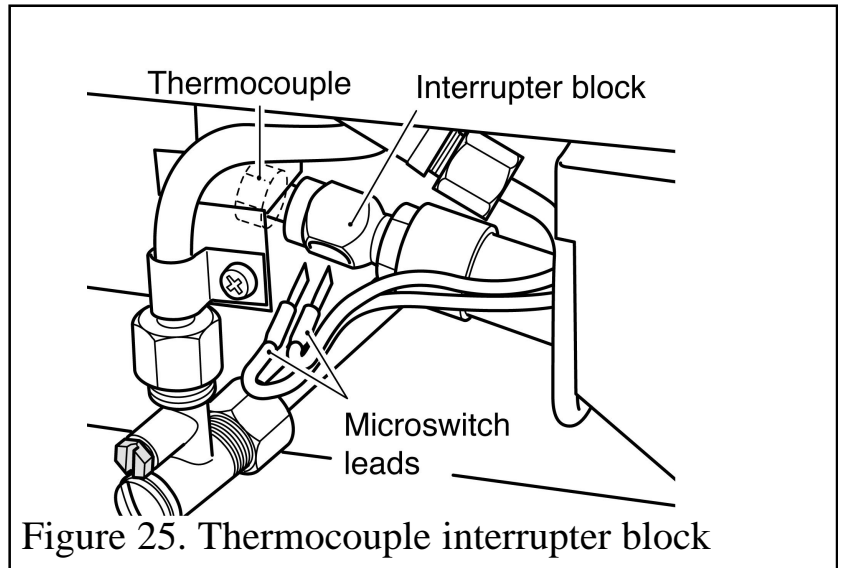

Figure 25. Thermocouple interrupter block
3. Loosen the thermocouple nut to free the microswitch leads and pull the leads clear of the thermocouple interrupter block (See figure 25).